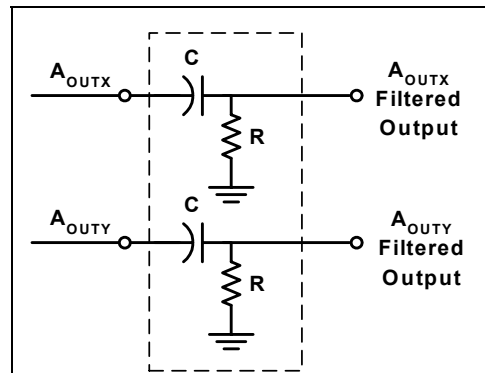

Figure 7: High Pass Filter
**AC Coupling:** For applications where only dynamic accelerations (vibration) are to be measured, it is preferable to ac couple the accelerometer output as shown in Figure 7. The advantage of ac coupling is that zero g offset variations from part to part and zero g offset drift over temperature can be eliminated. Figure 7 is a HPF (high pass filter) with a -3dB breakpoint given by the equation:  $f = 1/2\pi RC$ . In many applications it may be desirable to have the HPF -3dB point at a very low frequency in order to detect very low frequency accelerations. Sometimes the implementation of this HPF may result in unreasonably large capacitors, and the designer must turn to digital implementations of HPFs where very low frequency -3dB breakpoints can be achieved.